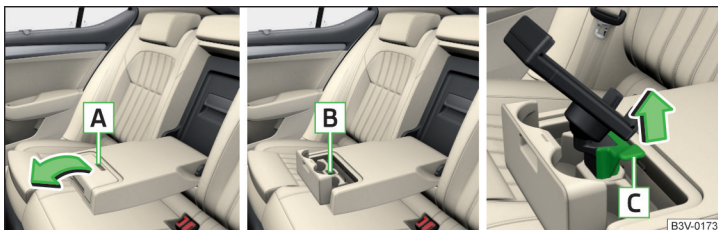

Fig. 124 Open storage compartment / room for holder / holder removal
- Grasp the storage compartment cover to the recess **A** » Fig. 124.
- Pull on the locking strap **C** in the direction of the arrow » Fig. 124.